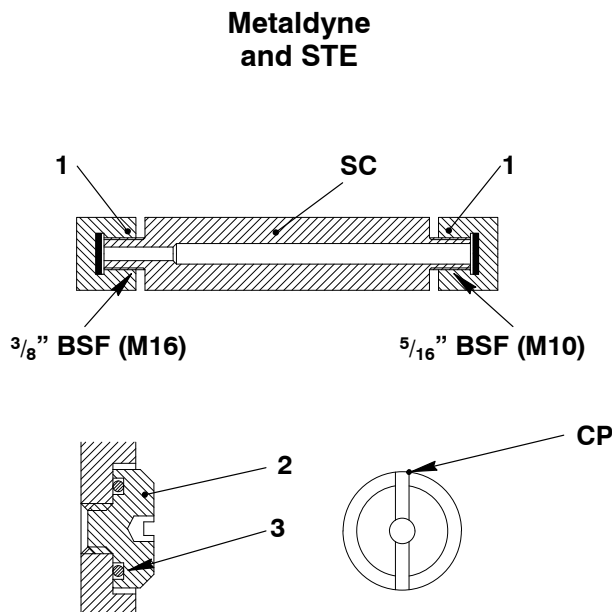

Fig. 2
- 1) Remove the two cap nuts (1, Fig. 2).
- 2) Examine the bore in the sample container (SC). Make sure that the bore is clean.
- 3) Remove the screw plug (2) loosened before.
- 4) Remove and discard the O-ring (3).
- 5) Put a new O-ring (3) in the screw plug (2).
- 6) Put the the sample container (SC) fully into the vibration damper housing, then turn the sample container back one turn. This will make sure that the sample container does not touch the flywheel.
- 7) When you see silicone oil in the sample container (SC), attach the cap nut (1) to the open end.
- 8) Remove the sample container (SC) from the vibration damper housing. Immediately attach the screw plug (2) to the vibration damper housing.
- 9) Attach the other cap nut (1) to the sample container (SC).